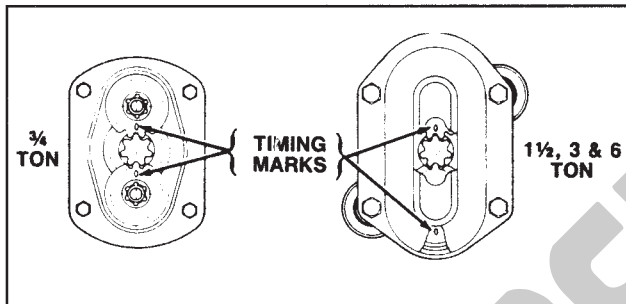

Figure 7. Gear Timing Marks
5. Gearing: When assembling the gears, they must be orientated with the timing marks aligned as shown in Figure 7.